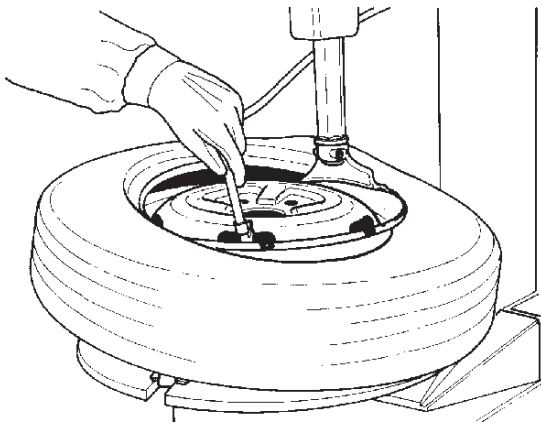

Fig. 5.1-3
D. Mount the first bead as described in section 4.2.B. Put the tube inside the tire and connect the inflation air line to the tube valve to hold the tube in place. (Fig. 5.1-3). Mount the top bead following the directions above.